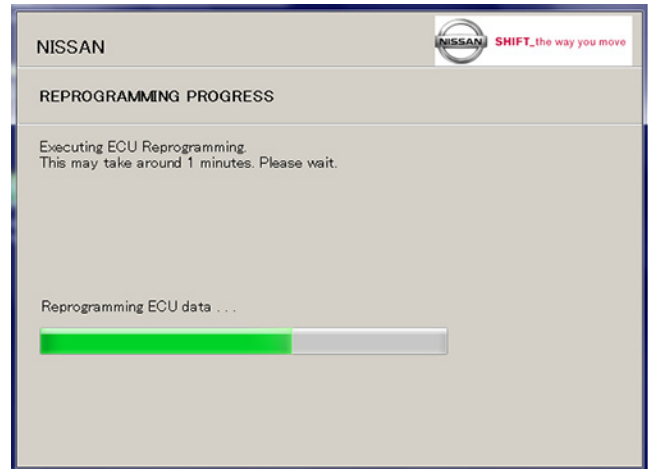

Figure 22
- **REPROGRAMMING PROGRESS** screen will be displayed (Figure 22).